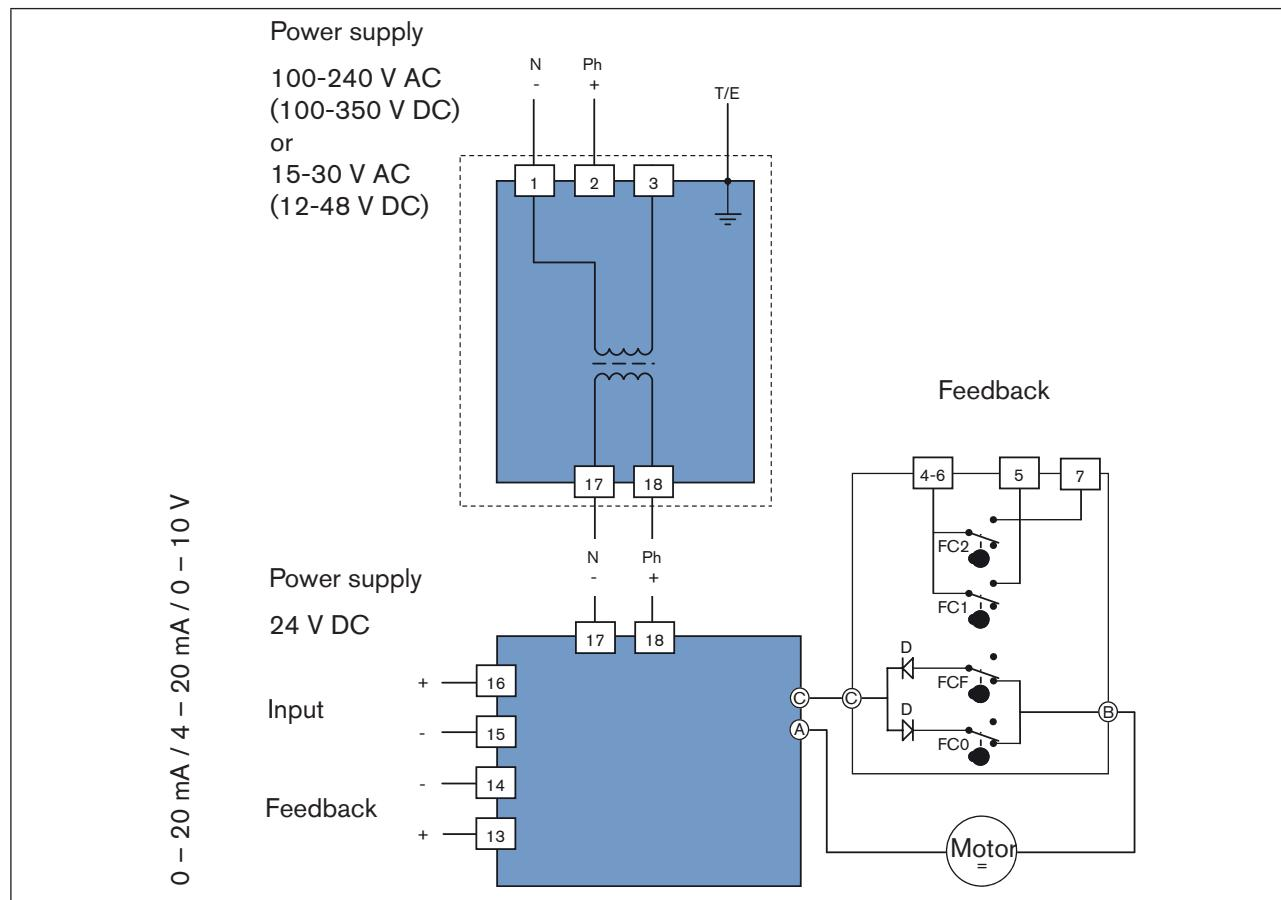

Figure 20: Circuit diagram
- Connect cable according to the circuit diagram (see "Figure 20") to the terminal strip Pos. 14 of the power supply card (see "Figure 1" and "Figure 2").
→ Connect cable to the terminal strip 12 (see "Figure 1" and "Figure 2") according to the schematic (see "Figure 20").